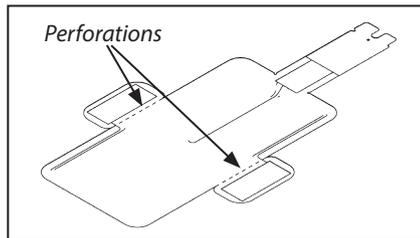

Figure 14 - Perforations
**Note:** Take care that the perforated wings are not damaged. If they are, there is risk that the circuit might be broken and the Matrix will require replacement. (Figure 14)